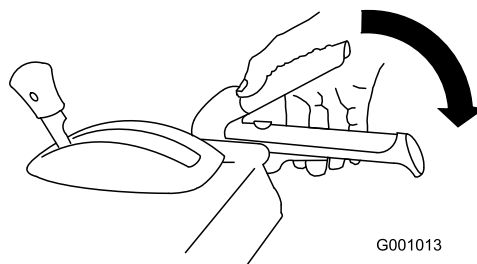

Figure 25
1. To engage the auger/impeller drive, squeeze the right (auger/impeller) lever to the handgrip (Figure 25).